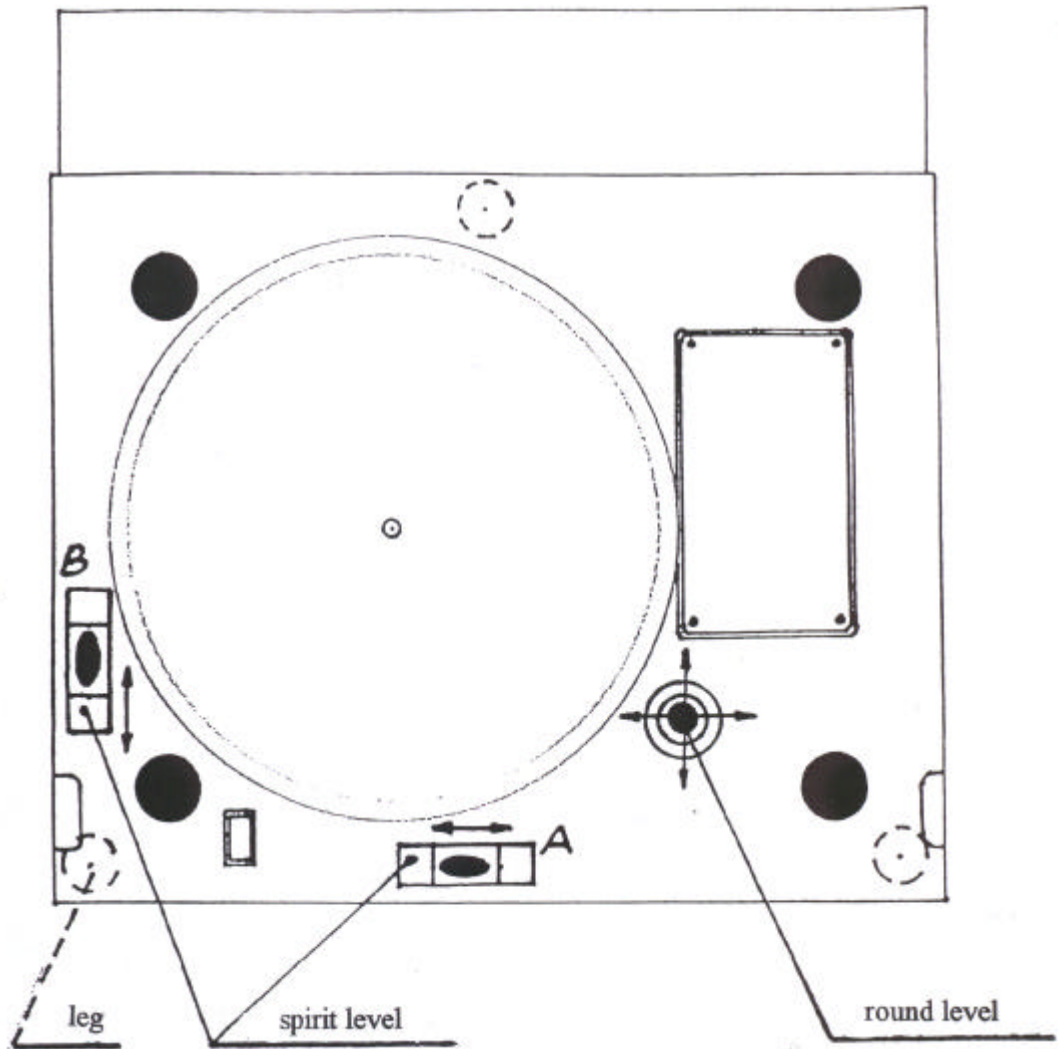

Fig. 15
- b) Place level at front of turntable top (position A) and adjust front legs until level is horizontal. (Clockwise raises turntable, anticlockwise lowers) (Fig. 15)